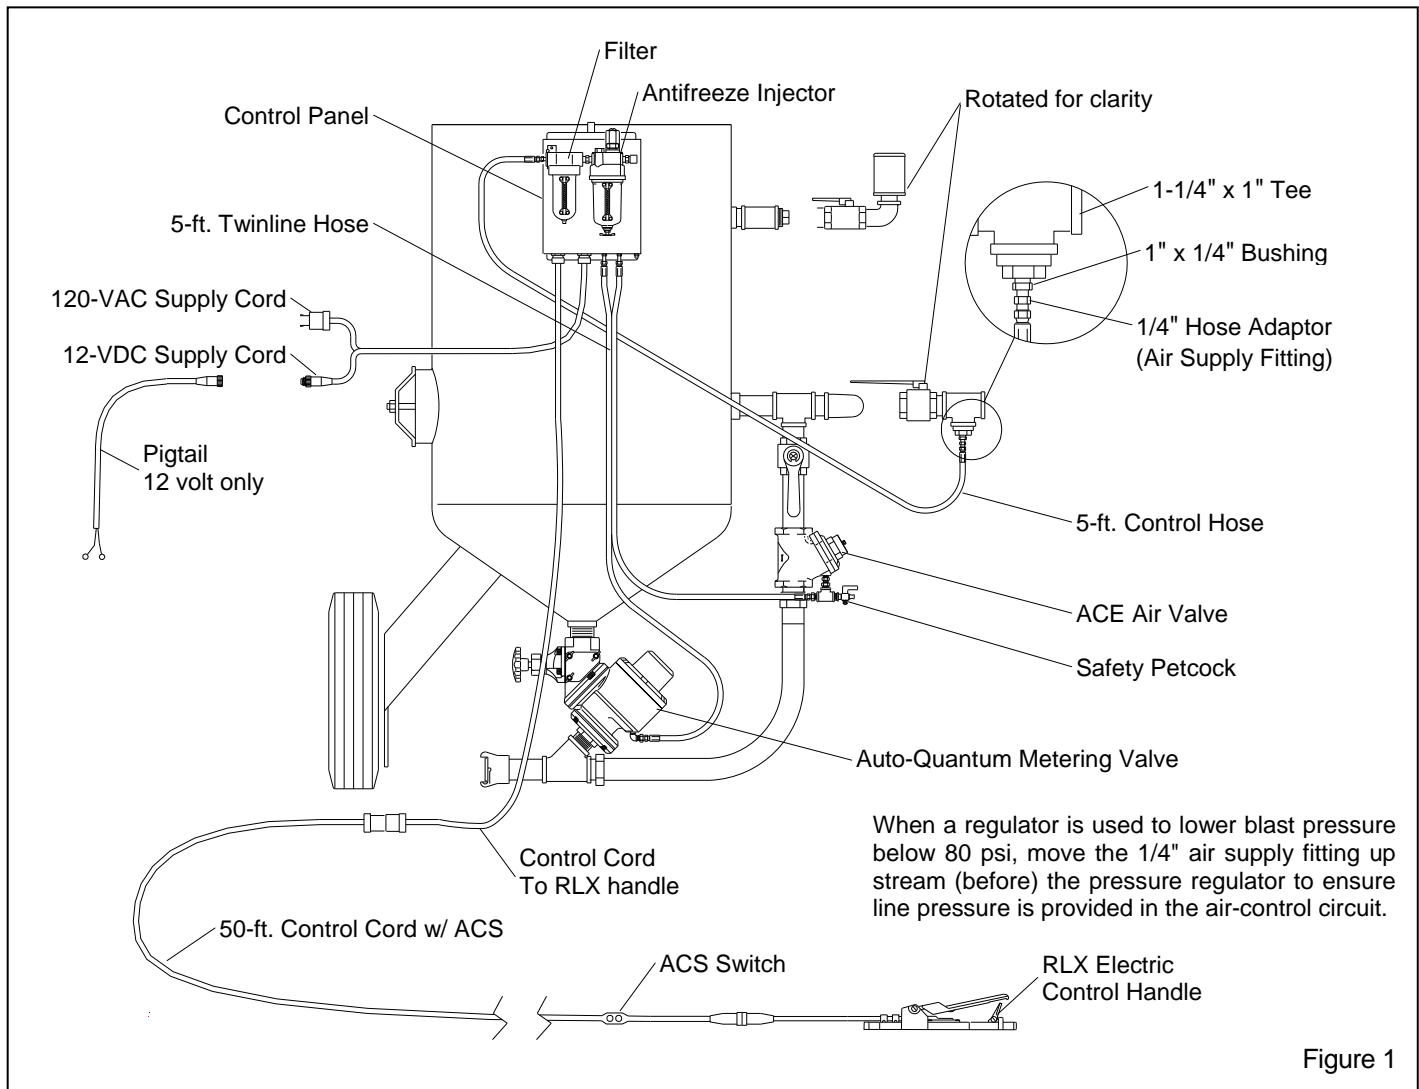

Figure 1
1.3.1 The components of the Quantum electric remote control system are shown in Figure 1. They include the Quantum abrasive metering valve, ACE air valve, RLX electric control handle, electric panel assembly, 50-foot control cord with abrasive cut-off switch (ACS), all interconnecting control hoses, and all necessary fittings.
**1.4.3** Quantum electric remote controls (electric over pneumatic) operate pneumatically (refer to Figure 1). When the machine is manually pressurized, control air travels through the filter and antifreeze injector, and into the control panel. If the electric control handle lever (which is the main activator of the system) is in the up (no blast) position, air stops at the control panel and the media and air valves remain closed. Pressing the electric control handle lever allows air to pass through the panel to open the media and air valves, which starts the blasting process. When the control handle is released, control air exhausts at the panel, the valves close and blasting stops.
2.2.9 Connect a manually operated ball valve (inlet valve) and a second tee (Tee No. 2) to the blast machine as shown. NOTE: The second tee and all fittings necessary to complete the assembly shown in the detail circle in Figure 1 are included with the remote system.
2.2.10 Refer to the detail circle in Figure 1, and install the bushings and adaptor fitting.
**2.2.11** Assemble a manual outlet valve assembly, and install it as shown. NOTE: Clemco supplies an exhaust muffler with all blast machines 1.5 cubic feet and larger. The muffler reduces exhaust noise and directs the exhaust downward, which prevents abrasive from exhausting into the air. When the blast machine is depressurized, the muffler body will pop up and diffuse the escaping air and abrasive. When the machine is fully depressurized, the muffler body will drop, permitting trapped abrasive to empty. For the muffler to work properly, it must be installed with the body facing up, as shown in Figures 1 and 3.
Refer to Figure 1.